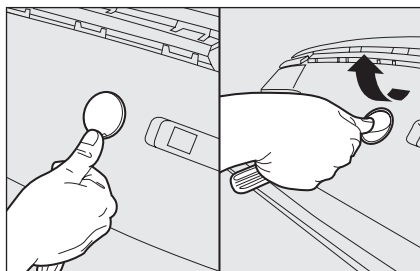

fig. 44
- extract the cap (without turning it) perpendicular to the supporting surface **fig. 44**.